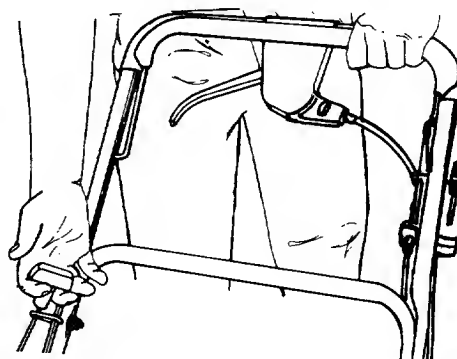

FIGURE 18.
3. Standing behind the unit, depress the blade control handle and hold it against the upper handle as shown. See figure 18.